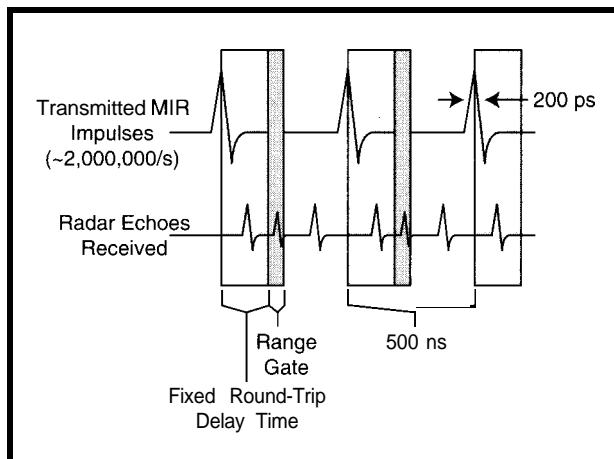

Figure 1—The M/R breakthrough is the ability to generate and detect subnanosecond events cheaply and with little power.
Taking the radar (Radio Detection and Ranging) refresher in Figure 1, we are reminded that radar works by emitting a radio-frequency (RF) signal and listening for the echo. The range is simply the product of the elapsed time and the speed of light.